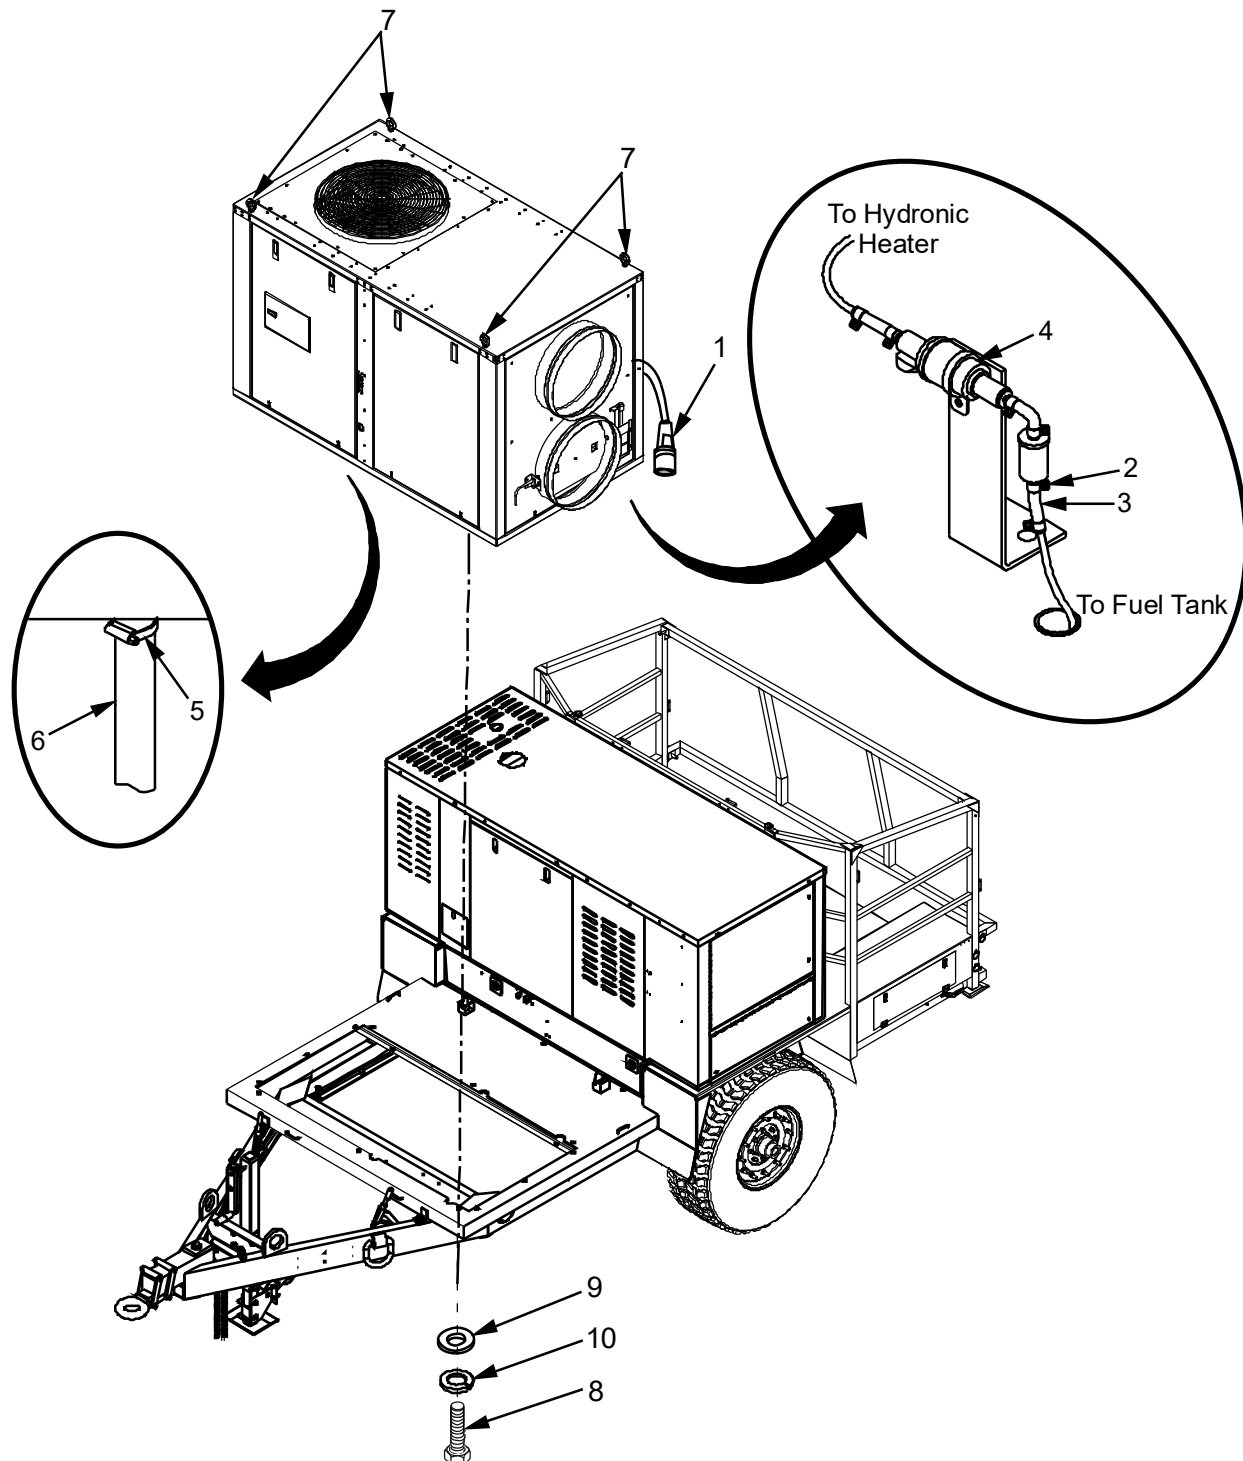

Figure 1. ECU Remove and Replace.
1. Using a suitable lifting device, attach chain/sling to the four lifting eyes (Figure 1, Item 7) on the ECU. Raise the lift only far enough to place tension (no slack) on the chain.
3. Install four bolts (Figure 1, Item 8), lock washers (Figure 1, Item 10) and flat washers (Figure 1, Item 9) through trailer frame and to underside of ECU. Hand tighten bolts at this time.
5. Install two drip valves (Figure 1, Item 6) located on underside of ECU and secure with tie wrap (Figure 1, Item 5).
6. Connect the ECU power cable (Figure 1, Item 1) to the Genset or to shore power.